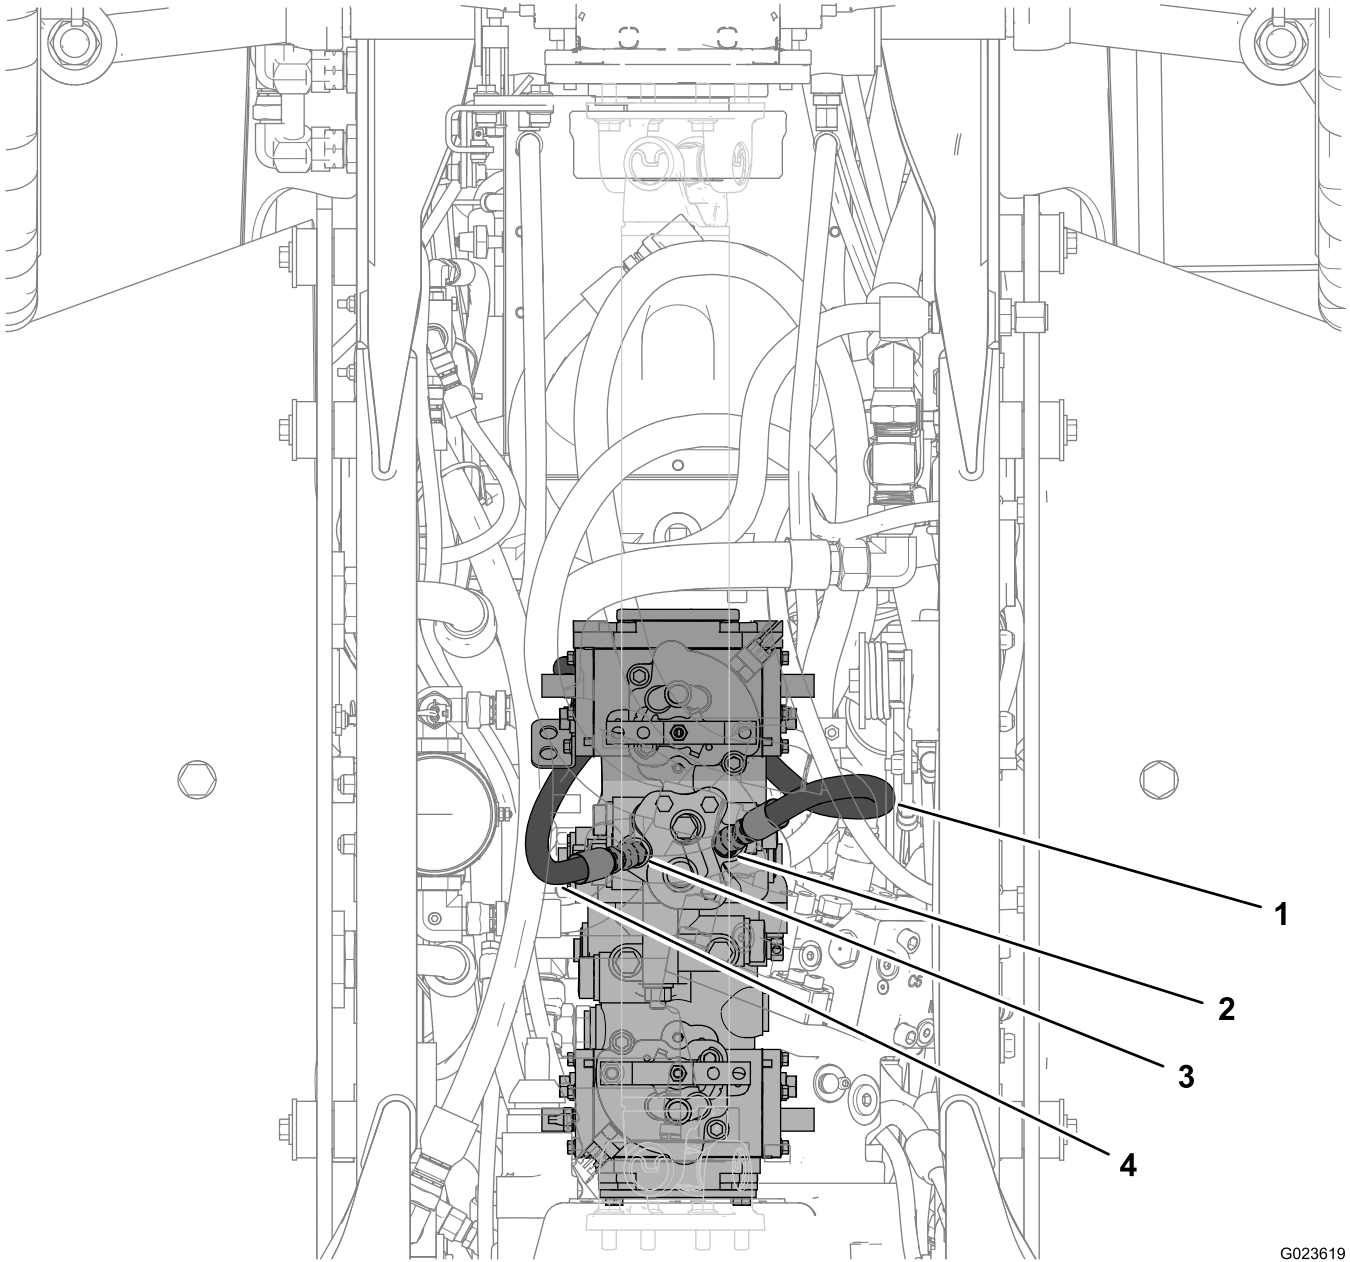

Figure 9
7. Remove the left plug and allow any escaping hydraulic fluid to drain into the pan (Figure 9).
8. Install a 45-degree elbow fitting into the opening, and connect the left hydraulic hose to the fitting (Figure 9).